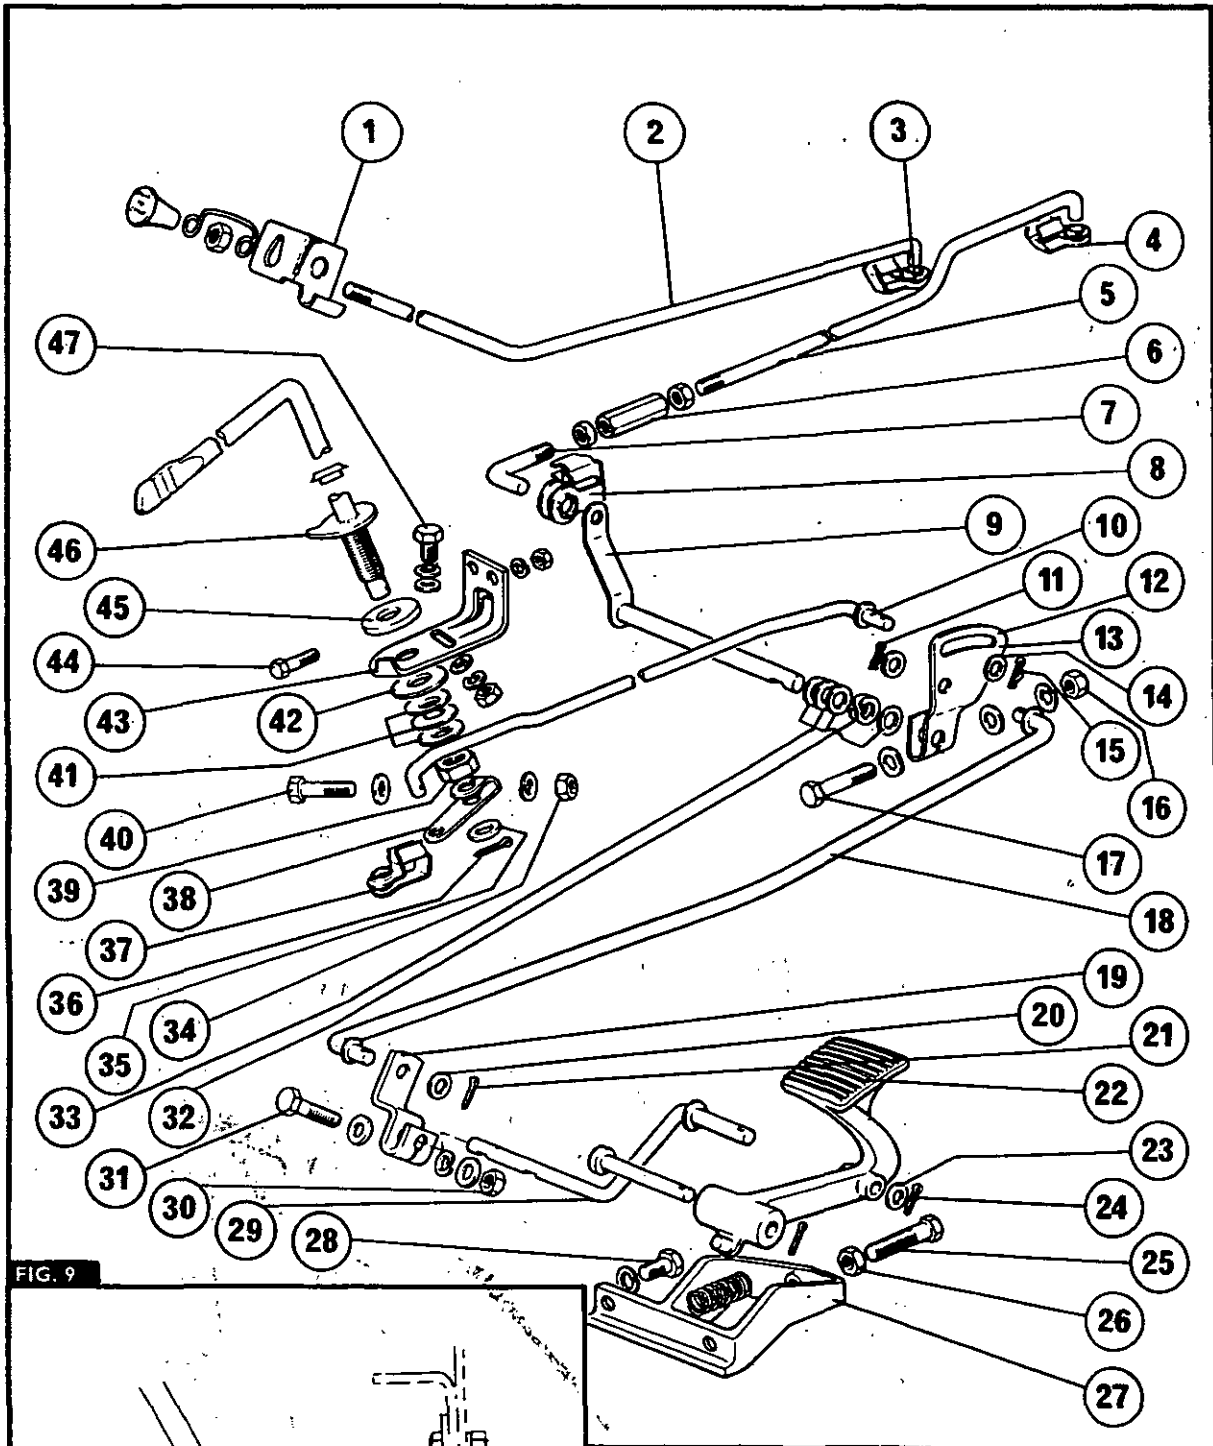

FIG. 9
1. Fig. 9. Remove the rod (2) from the clip (3) at the fuel injection pump.
2. Withdraw the complete assembly through the bracket (1).
1. Fig. 9. Remove the rod (5) from the clip (4) at the injection pump.
2. Disconnect the rod (7) from the clip (8) at the shaft (9).
3. Remove the clip (15) and washer (14) from the rod (10) and then remove the rod from the clip (37) at the lever (38).
4. Remove the nut (16), spring washer, flat washers and bolt (17) from the quadrant (13), then remove the quadrant, spring (32) and washers (33) from the shaft (9).
5. Withdraw the shaft (9).
8. Move the battery as far forward as possible and remove the bolts (44) securing the throttle lever bracket (43) and then manoeuvre the complete lever from beneath the instrument panel.
9. To overhaul the lever, remove the pin (36) and washer (35), then remove the nut (34), spring washer, flat washers and bolt (40); remove the lever (38), nut (39), belleville washers (41), flat washer (42), bracket (43) and friction disc (45).